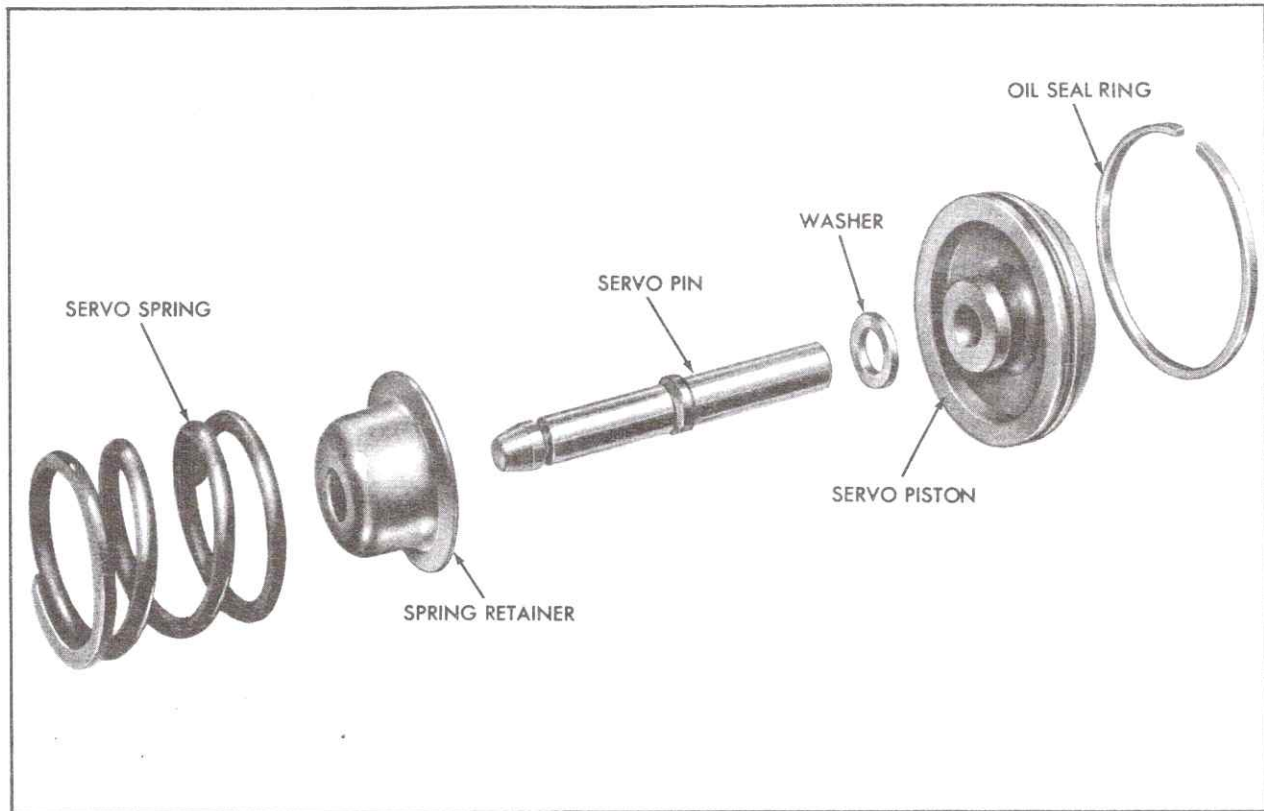

Fig. 7-200 Front Servo Disassembled
- a. Reassemble parts of front servo, Fig. 7-200,